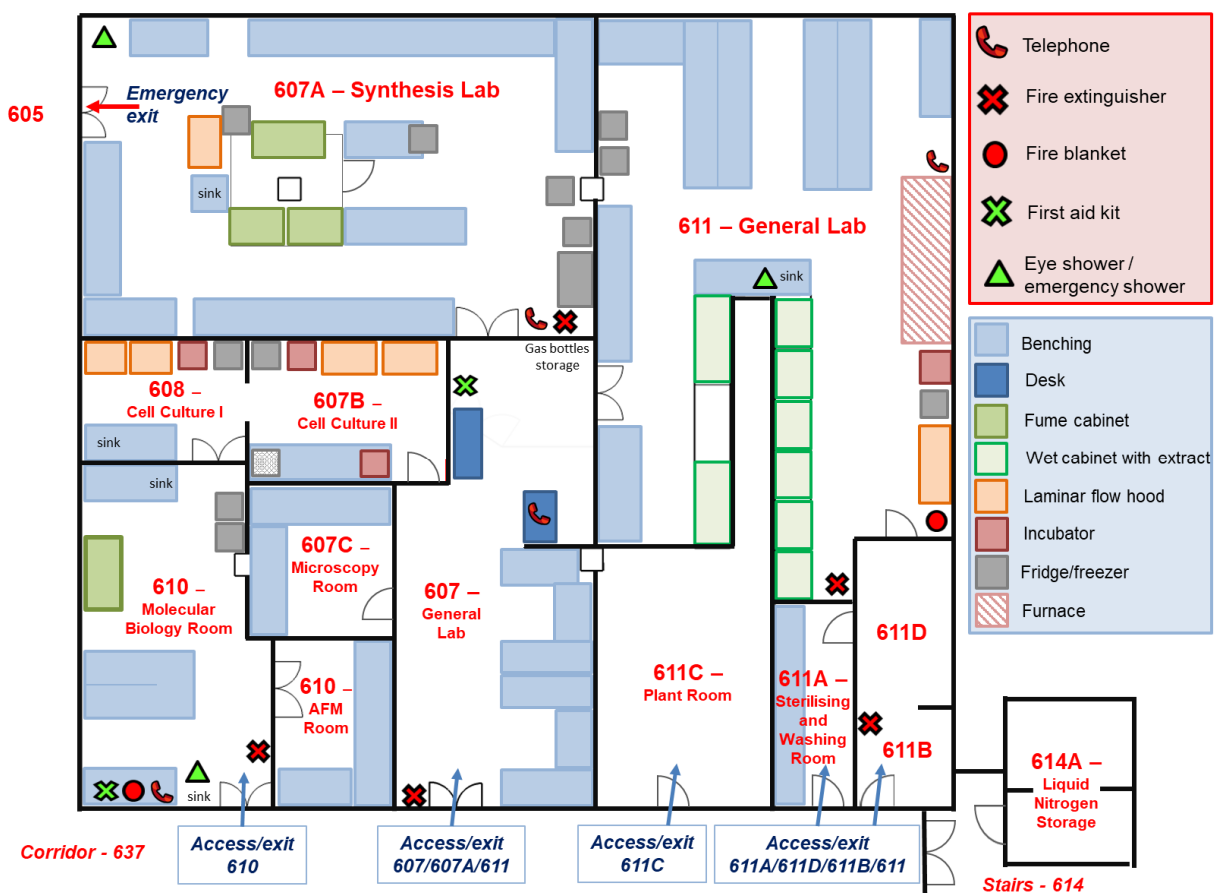

Figure 1. Lab floor plan
Access to rooms 610 and room 607 on level 6 is via security coded doors on the main corridor 637; room 611 is accessed from the main corridor through room 607 or through the coded door of room 611A (see Fig. 1). Only trained personnel should have access to the security codes. When the lab is occupied, the door should be left unlocked so that access can be gained in an emergency. The doors should be locked when the lab is unoccupied.
- The **Biology Lab** (Lab responsible: **Dr. Vineetha Jayawarna**) is divided into four separate areas: two Cell Culture Rooms (608 and 607B), an AFM Room (610), and a Molecular Biology Room (610) (see Fig. 1).
- The **Synthesis Lab** (Lab responsible: **Dr. Marco Cantini**) is located in room 607A (see Fig. 1).
- The **General Lab** (Lab responsible: **Dr. Badri Aekbote**) includes room 611, room 607 and the Microscopy Room 607C (see Fig. 1).
- The labs also include a Sterilising and Washing Room (611A), a Plant Room (611C), and a Liquid Nitrogen Storage Room (614A) (see Fig. 1); the lab technician has responsibility for these rooms.
- **Emergency telephone number** is **4444**, telephones are located next to access/exit door in room 610, on desk in 607, next to access/exit door in room 607A, and near furnace in room 611 (See Fig. 1 📞).
- **Fire Extinguishers** are located on the wall in room 610, on the wall at the door of room 607, on the wall at door of room 607A, in 611 on the floor at door to 611D, on wall in 611B near the door (See Fig.1 ✖).
- **Fire blanket** next to the hand washing sink in room 610, next to the exit door to room 611D in room 611 (See Fig.1 🔴).
- **First Aid kits** on the cupboard next to the sink in room 610 and on wall near the door to room 607A in room 607. (See Fig.1 ✖).
- **Eye shower** in room 610 (next to the sink) and 611 (next to sink); the lid of the eye shower should be opened prior to starting any work in the lab and closed after leaving the lab (See Fig.1 ▲).
- **Emergency shower** and **Eye shower** in room 607A (in the corner next to the emergency exit leading to the room 605 (See Fig.1 ▲)).